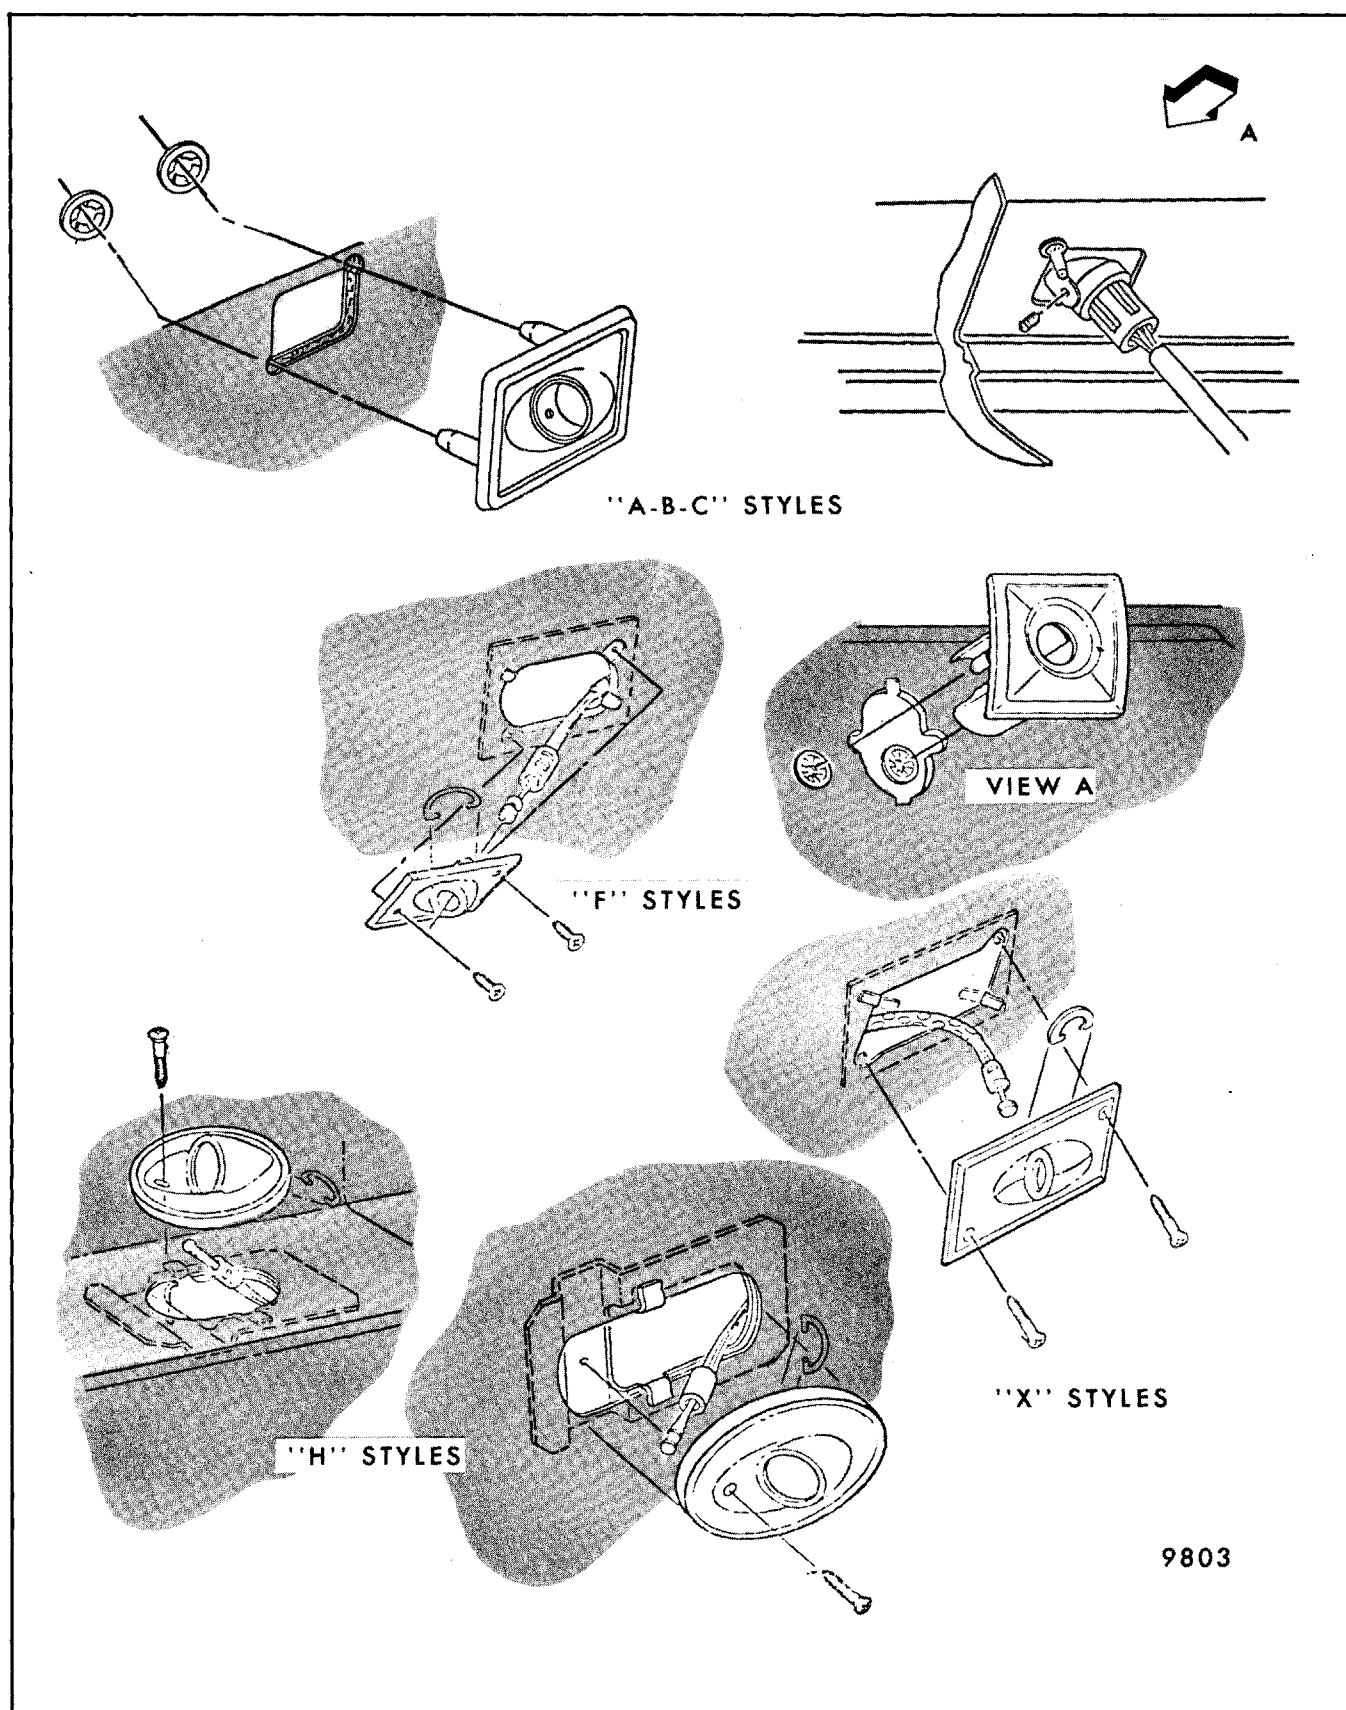

Fig. 5-10-Typical Remote Mirror Cable and Escutcheon Attachment
4. On styles with remote control mirror assemblies, remove remote mirror escutcheon and disengage end of mirror control cable from escutcheon as previously described (Figs. 5-10 through 5-13).